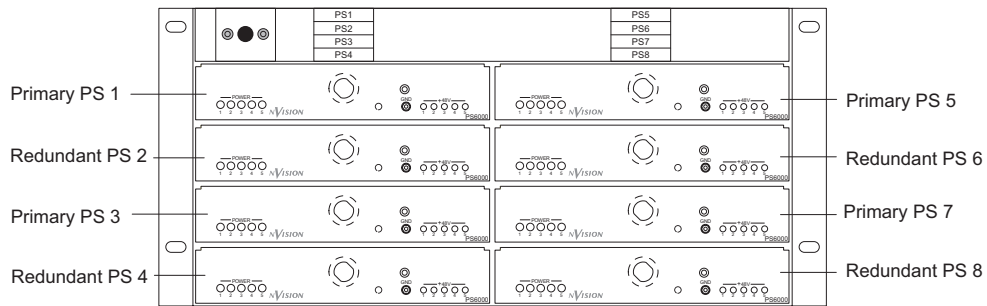

Figure 2-4. NV6257 Power Supply (Front View)
- a Facing the front of the **NV6257**, install the primary PS6000 power supply modules in slots *PS 1* and *PS 3*, as shown in Figure 2-4 on page 38.
b (Optional) Facing the front of the **NV6257**, install the redundant PS6000 power supply modules in slots *PS 2* and *PS 4*, as shown in Figure 2-4.
When two routers are connected to one NV6257 power supply, different PS6000 power supply module slots (see Figure 2-4) provide power to one or the other of the two routers (Router 1 and Router 2), as follows:
- a Facing the front of the **NV6257**, install the primary PS6000 power supply modules in slots *PS 1*, *PS 3*, *PS 5* and *PS 7*, as shown in Figure 2-4 on page 38.